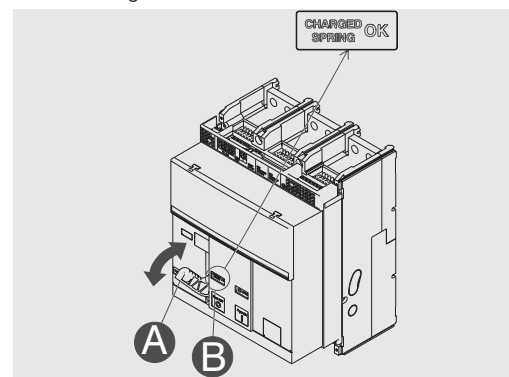

Figure 19
2. Charging the springs - Pull the lever [A] downwards several times until the springs charged signalling device [B] is "yellow - CHARGED SPRING" as indicated in Figure 19.